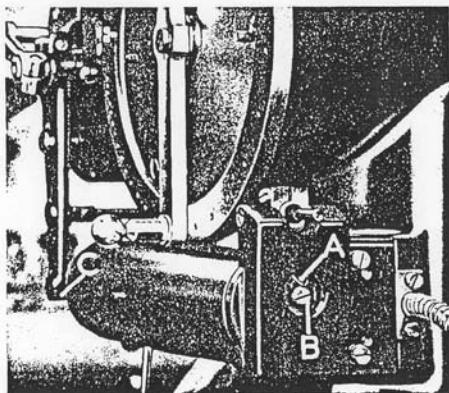

FIGURE 12 - ADJUSTMENT OF CLUTCH MAGNET
E. REPLACEMENT AND ADJUSTMENT OF CLUTCH MAGNET (figure 12)